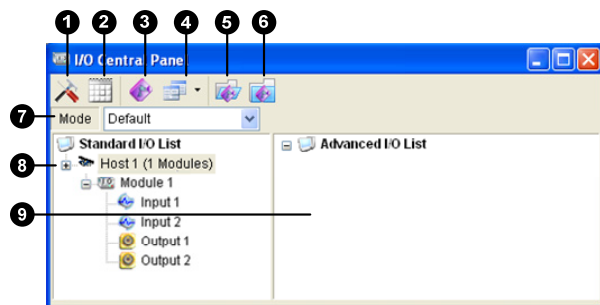

Figure 4-62
1. Right-click on **Advanced I/O List** (No.9, Figure 4-62), and then select **Add A Group**. This dialog box appears.
[Display Setting] You can define the nature of I/O devices by colors. Note that the setting only affects the **Detail** style of the Advanced I/O List (No. 4, Figure 4-62).
On the panel toolbar, click the **Configure** button (No.1, Figure 4-62) and select **Panel Setting**. This dialog box appears.
You can view the connection status of the hosts. On the panel toolbar, click the **Configure** button (No.1, Figure 4-62) and select **View Notification**. This dialog box will appear. The maximum of 1000 messages will be logged for reference.
1. Click the **Mode** drop-down list (No. 7, Figure 4-62), and select **More Edit**. This dialog box appears.
1. On the panel toolbar, click the **Configure** button (No.1, Figure 4-62), and select **Schedule Setting**. This dialog box appears.
4. To start the mode schedule, click the **Mode Schedule** button (No. 2, Figure 4-62), and then select **Mode Schedule Start**.
- To open the Quick Link window, click the **Toggle Quick Link** button. (No. 3, Figure 4-62).